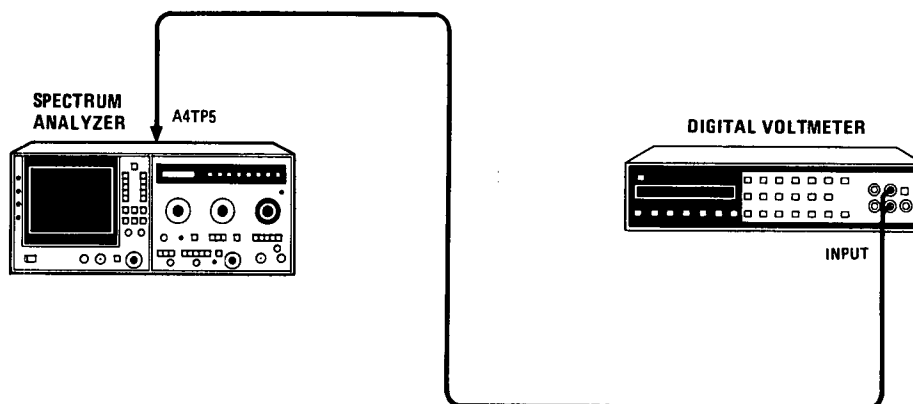

Figure 5-5. Z Axis Adjustment Test Setup
19. Connect voltmeter to A4TP5 CONT GATE (Figure 5-5). Gradually increase INTEN control to fully clockwise position. Voltage should not exceed +70V. Adjust A4R4 INTEN GAIN for a voltmeter reading of +70.0  $\pm$ 0.2V.